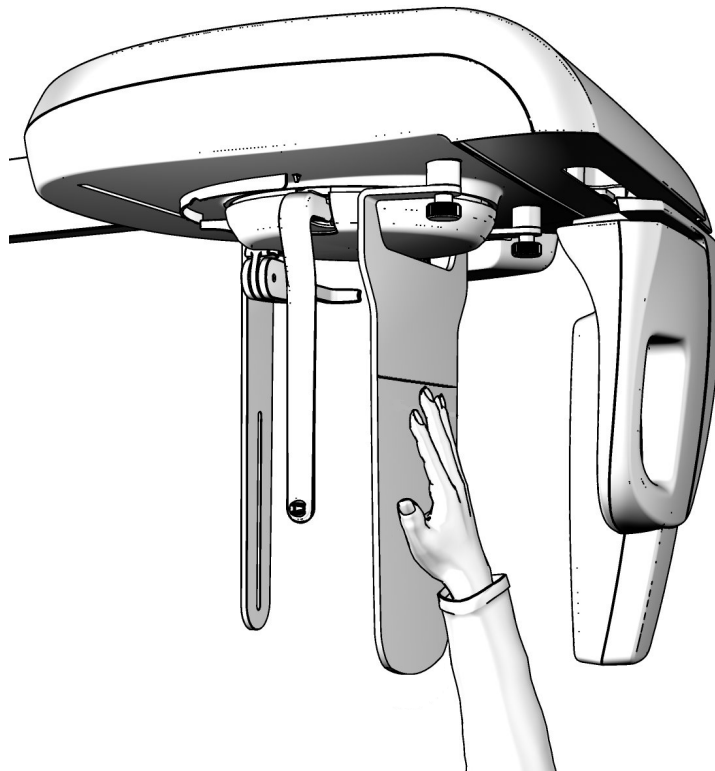

Figure 30
The set image format to perform this examination is 18x22 Symmetric and cannot be changed; therefore it is necessary to position the ear rods and nose rest in the same way as for the Antero-Posterior cephalometric examination, so that these elements do not interfere with the path of the X-rays. Refer to Figure 30.
4. Place the patient's hand so that it is between the sensor and positioning support (Figure 30).